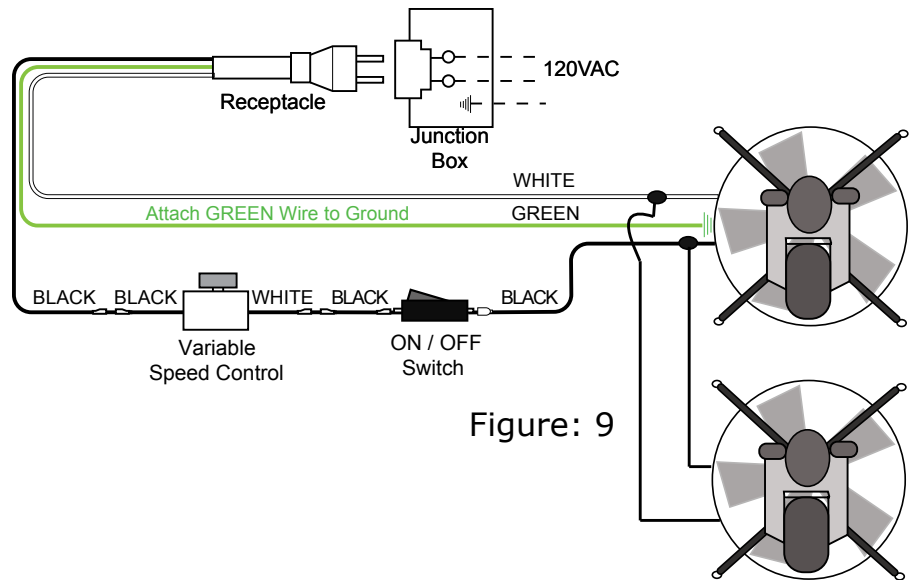

Figure: 9
•Wiring Diagram for this Blower Kit is illustrated in Figure: 9.